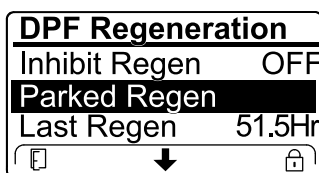

Figure 52
- If the engine computer requests a recovery regeneration or is processing a recovery regeneration and you scroll down to the PARKED REGEN option, parked regeneration locks and the lock icon (Figure 52) appears in the lower right corner of the InfoCenter.